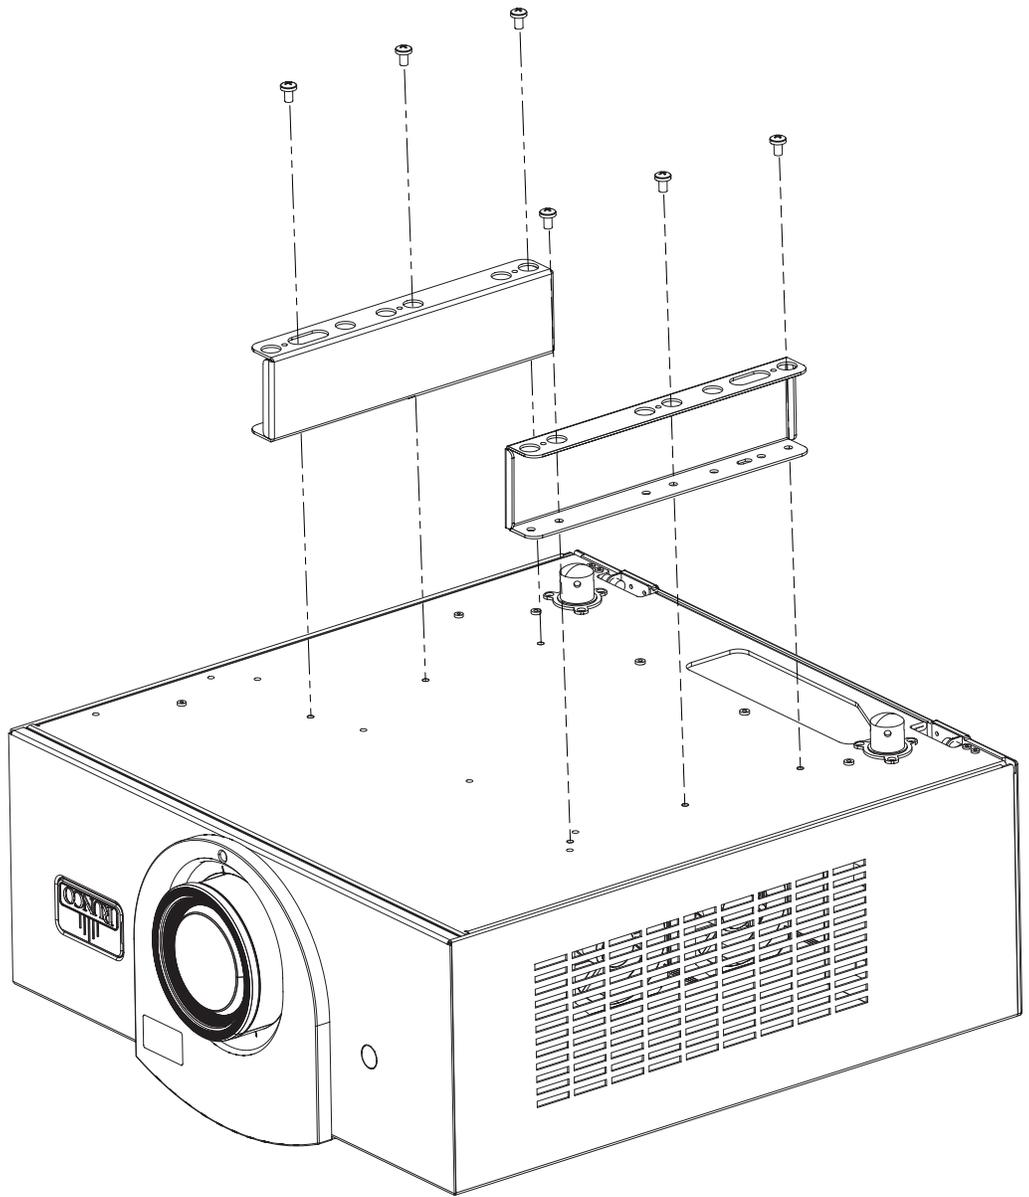

Figure 3-7. Q750i with Ceiling Mount Adapters/Projector Stands
Using six (6) each of the supplied, M6 x 12mm Pan-Head Phillips screws (item #2), attach the AutoScope Ceiling Mount Adapters/Projector Stands (items #3 and #4) to the projector as shown in Figure 3-7.